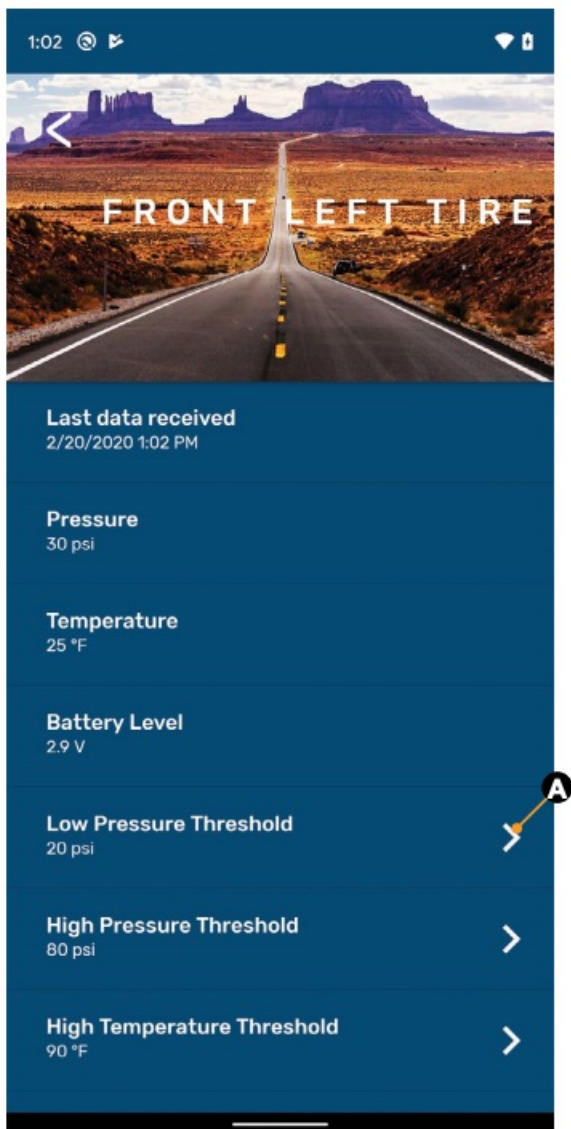

Fig.18
5. Tap the readout button (**Fig.16A**) of a tire to launch its properties window (**Fig.18**). Within the selected tire's properties window, various tire and sensor specifications can be observed and altered.
Programmable tire limits have a “next” arrow (>) (**Fig.16A**) that, when tapped, opens that feature’s scrollable window of available settings. Scroll through the limits window to find the desired setting, select it, then tap the “back” arrow (<) (**Fig.18**) located above the tire’s name at the top of the window’s heading.
- A.** In this example, the reported current tire **Pressure** is listed as “30 psi” (**Fig.18**).